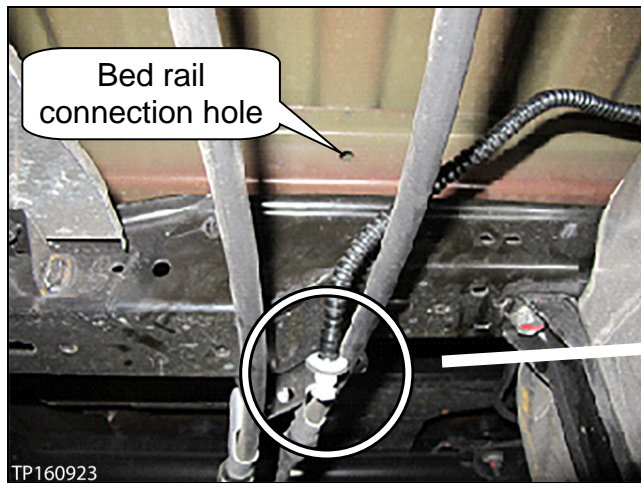

Figure 4
c. If the breather tube is not connected but can easily reach the bed rail connection hole and it DOES have a cap fitted to it (see Figure 4 and 5):